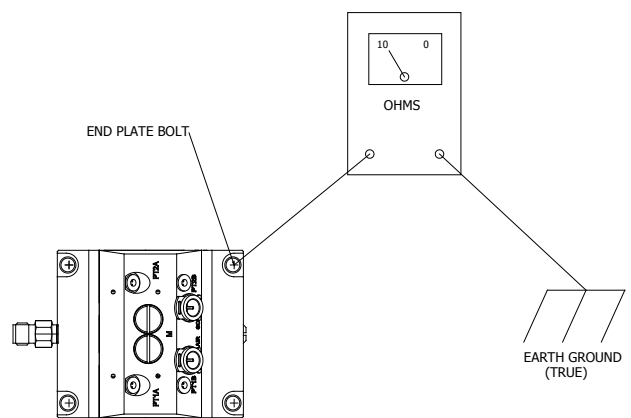

Figure 14: Ground Test
14. With an ohm meter, check for conductivity between the top plate of the purge valve and the output plate on the color changer. There should be 10 ohms or less between the two points (see Figure 14).